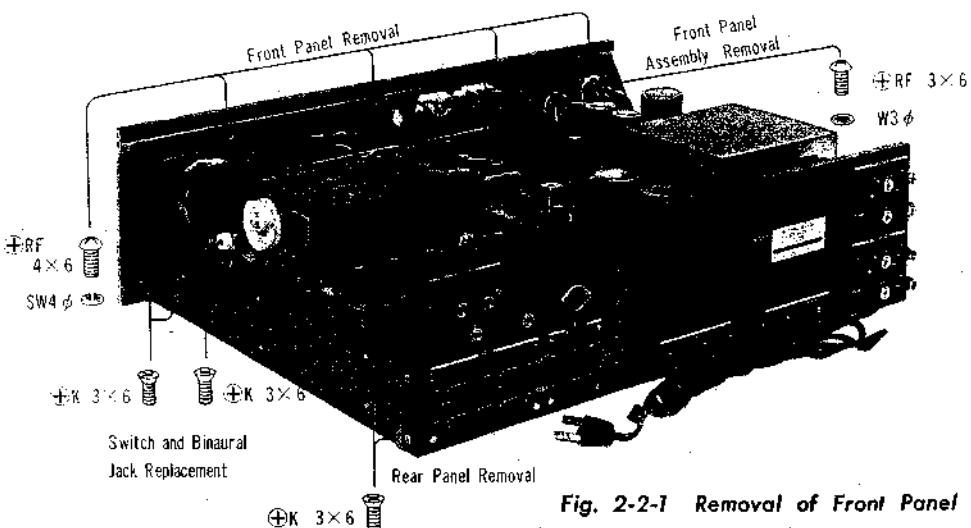

Fig. 2-2-1 Removal of Front Panel
- (c) Loosen off four Phillips-Head screws (+RF 4φ × 6) behind the top edge of the Front Panel Assembly (the vertical bracket that mounts the dial and tuning meters). See Fig. 2-2-1 on next page.
- (b) Loosen off two flat head screws (+K3φ × 6) at each side of the chassis and one screw (+RF 3φ × 6) that secures the sub-panel to the volume control and mode switch bracket. See Fig. 2-2-1 on next page.
- (c) To take the binaural jacks out, remove the switch and control assembly by loosening the two screws (+K3φ×6) at each side of the chassis as shown in Fig. 2-2-1. Now tilt the assembly forward and down. The jacks can now be removed by loosening the screws that secure them to the chassis.
- (b) Loosen off two machine screws (+K3φ×6) securing the rear panel at each side of the chassis as shown in Fig. 2-2-1.
- (b) Loosen off two machine screws (+K3φ×6) at each side of the chassis as shown in Fig. 2-2-1.